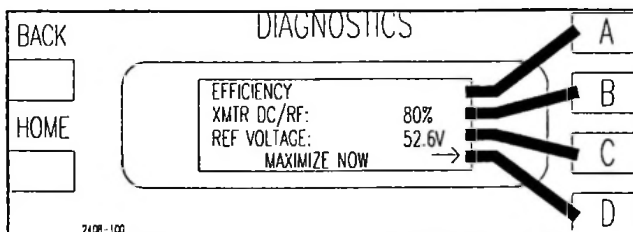

Figure 3-13 Efficiency Status Screen [HOME, METERING D,C]
- **Manual Mode** - In the Diagnostics Display there is a menu screen which can be used to optimize the transmitter efficiency. To optimize efficiency press [HOME, METERING D,C then D for Maximization]. The Efficiency Status/Manual Optimize screen is shown in Figure 3-13.
The REF VOLTAGE in Figure 3-13 is merely an internal reference point the controller uses to reduce the supply voltage in optimized mode. This reading is usually in the low 40's when the transmitter is optimized (well below the actual supply voltage).